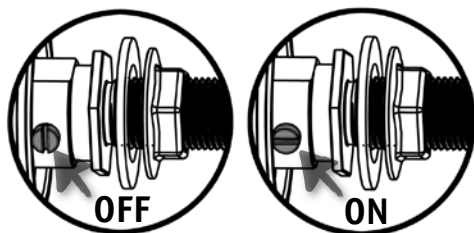

Fig. 19
- 3) Ensure the **ISOLATION VALVES 5** are in the OFF position, using **FLAT-BLADE SCREWDRIVER** (**Fig. 19**)